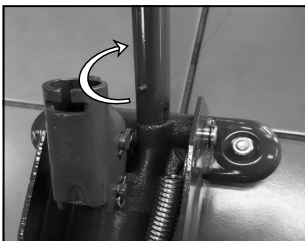

fig 7.
3. Use the handle assembly to twist the release valve clockwise until tight [fig.7]. Do not over-tighten.